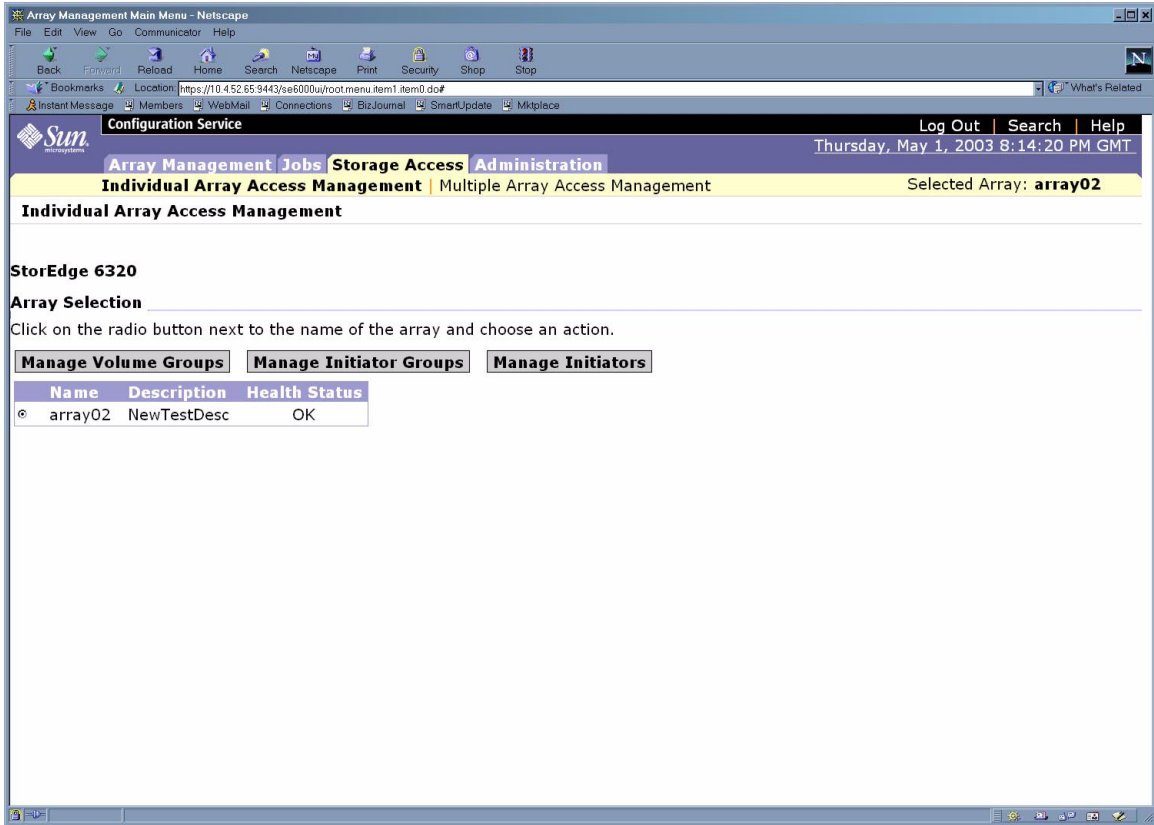

FIGURE 6-26 Storage Access—Manage Initiators Groups Page
5. Click **Storage Access** Tab and the **Storage Access** Page is displayed as shown in FIGURE 6-26.